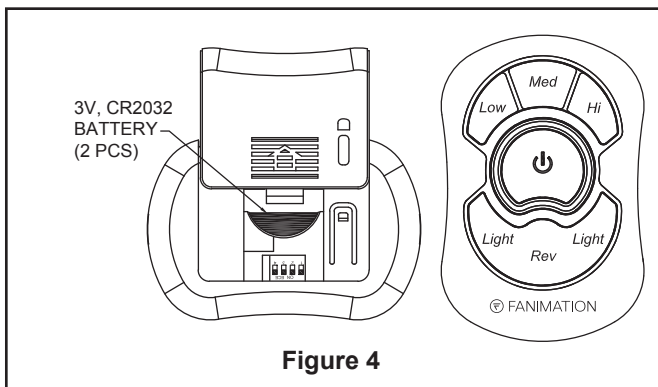

Figure 4
4. Operating & Using Hand-held Remote (Figure 4): Install two piece of 3 volt battery (If not using for long periods of time, remove battery to prevent damage to store hand-held remote). the hand-held remote away from excess heat or humidity.